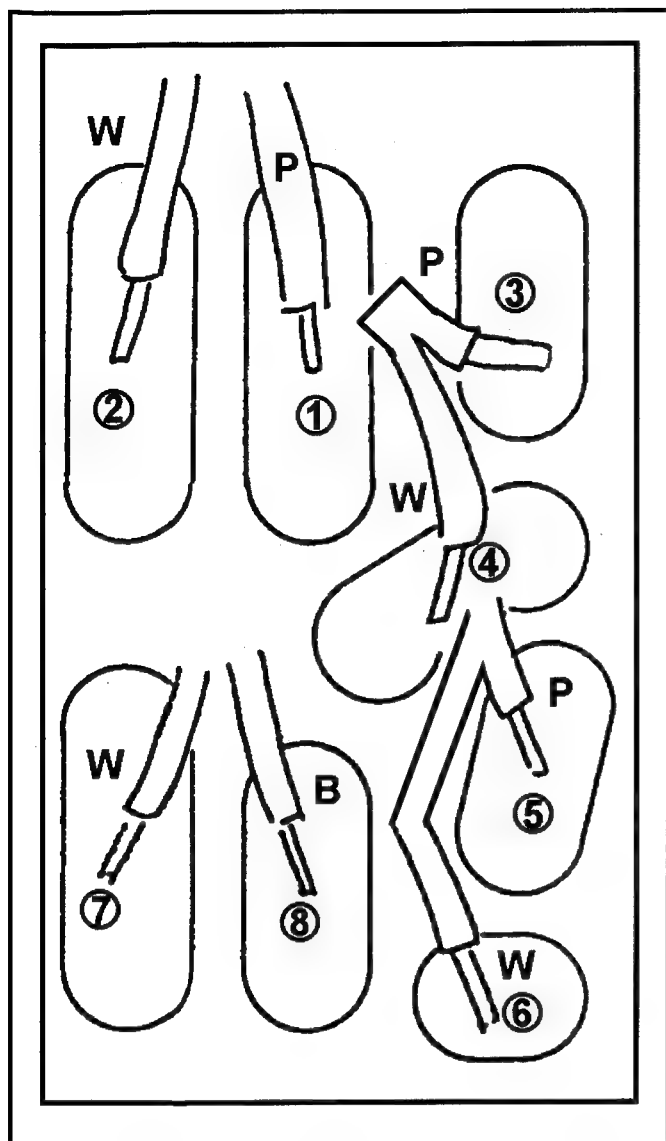

Fig. 6-2-3
5. Unsolder the lead wires as shown in Figure 6-2-3.
1. Remove the Shield Case from the New A/C Head and solder the lead wires to New A/C Head (Refer to Figure 6-2-3).
3. Install the A/C Head to A/C Head Plate and tighten 2 screws (A) so that A/C Head is parallel to A/C Head Plate.
5. Put on the Head Height Adjustment Spring and tighten the Nut (C).